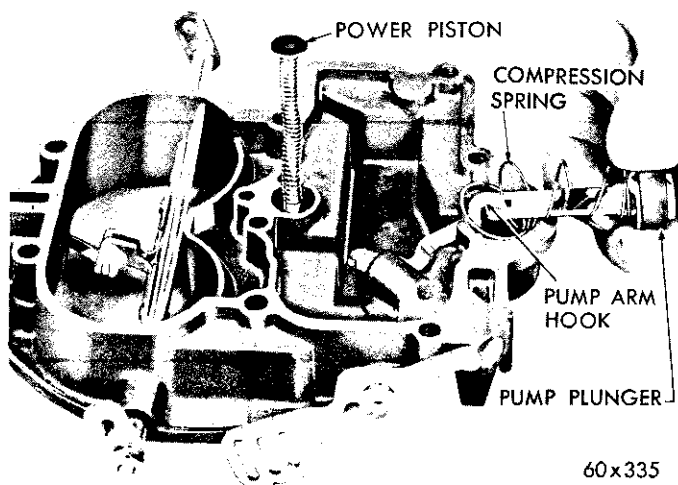

Fig. 15—Removing or Installing Accelerator Pump Plunger
(6) Disengage the accelerator pump-plunger from the pump arm hook by tilting down and out from under hook, as shown in Figure 15. Remove the compression spring.
(2) Hold the choke valve closed, then position the choke piston bracket and install new screws. **DO NOT TIGHTEN.** While holding the valve in the closed position, tap gently with a screwdriver, to center and locate the valve.
(3) Tighten attaching screws securely, then stake by squeezing with pliers. Reinstall the fast idle lever and secure with lockwasher and nut.
(4) Soak the accelerator pump plunger in a jar of clean gasoline. Test the leather. If the leather is hard, cracked, or worn, install a new pump plunger. (Be sure and flex the leather several times before installing plunger in air horn.)
(5) Slide the compression spring over plunger shaft, then slide plunger over hook and into position (Fig. 15).